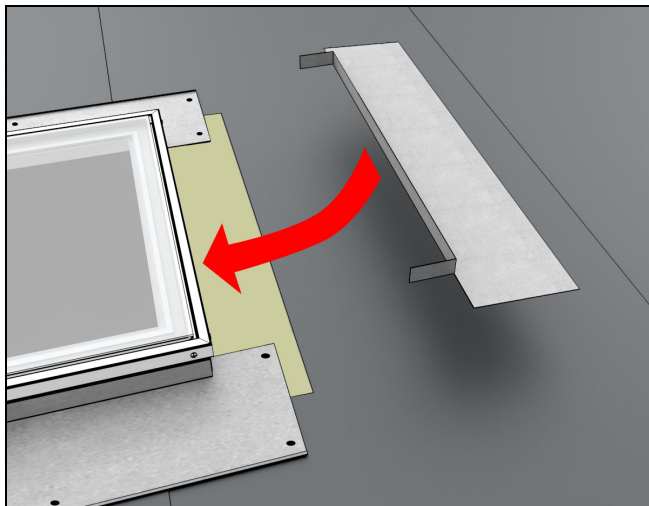
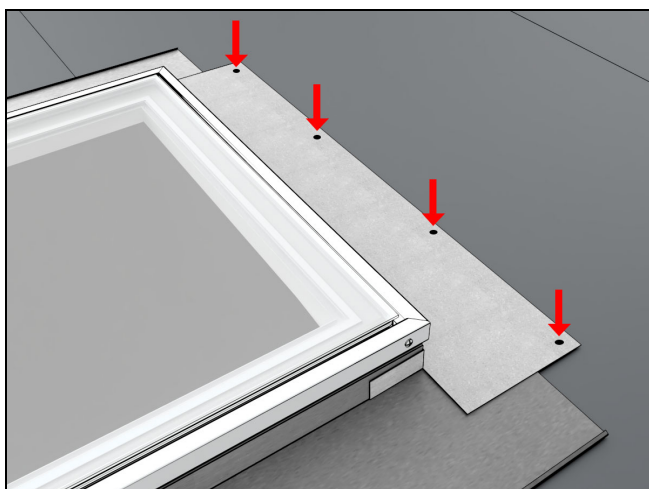

Figure 54
Figure 55
3. Center head jamb saddle and bend tabs over, press firmly to deck and unit. See Figure 54. Attach using roofing nail. Note: No fasteners within 4" of unit. See Figure 55.